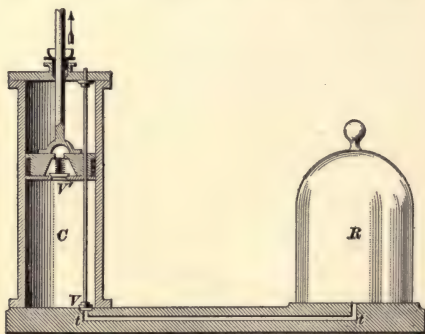
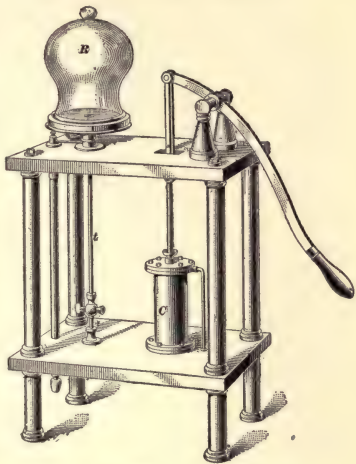

FIG. 19.
FIG. 20.
shown in Fig. 19 and the complete instrument in Fig. 20. The closed vessel *R* is called the **receiver**, and the space
The piston is now pushed down, the valve *V* closes, the valve *V'* opens, and the air in *C* escapes. The lower valve *V* is sometimes supported, as shown in Fig. 19, by a metal rod passing through the piston and fitting it somewhat tightly. When the piston is raised or lowered, this rod moves with it. A button near the upper end of the rod confines its motion within very narrow limits, the piston sliding upon the rod during the greater part of the journey. In the complete form of the instrument shown
in Fig. 20, communication between receiver and pump is made by means of the tube t .
61. Degrees and Limits of Exhaustion.—Suppose that the volume of R and t together is four times that of C , Fig. 19, and that there are, say, 200 grains of air in R and t , and 50 grains in C when the piston is at the top of the cylinder. At the end of the first stroke, when the piston is again at the top, 50 grains of air in the cylinder C will have been removed, and the 200 grains in R and t will occupy the space R , t , and C . The ratio between the sum of the spaces R and t and the total space $R + t + C$ is $\frac{4}{5}$; hence, $200 \times \frac{4}{5} = 160$ grains = the weight of air in R and t after the first stroke. After the second stroke, the weight of the air in R and t would be $(200 \times \frac{4}{5}) \times \frac{4}{5} = 200 \times (\frac{4}{5})^2 = 200 \times \frac{16}{25} = 128$ grains. At the end of the third stroke, the weight would be $[200 \times (\frac{4}{5})^2] \times \frac{4}{5} = 200 \times (\frac{4}{5})^3 = 200 \times \frac{64}{125} = 102.4$ grains. At the end of n strokes the weight would be $200 \times (\frac{4}{5})^n$. It is evident that *it is impossible to remove all the air that is contained in R and t by this method.* It requires an exceedingly good air pump to reduce the tension of the air in R to $\frac{1}{60}$ inch of mercury. When the air has become so rarefied as this, the valve V' will not lift, and, consequently, no more air can be exhausted.